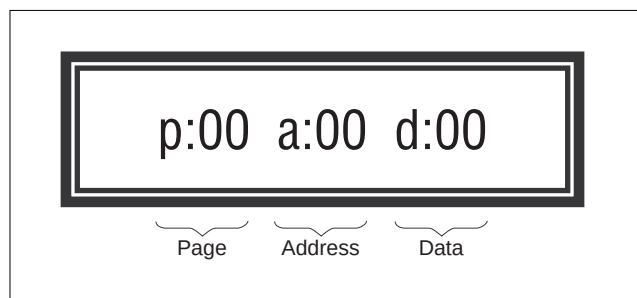

Fig. 6-3-2
- 2) Set the slide switch of the adjustment remote commander (New LANC Jig) to "SERVICE" (SERVICE position). If it has been properly connected, the LCD on the adjustment remote commander (New LANC Jig) will display as shown in Fig. 6-3-2.